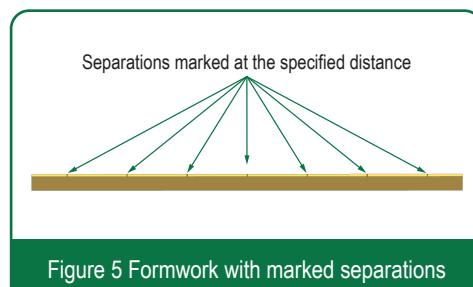

Figure 5 Formwork with marked separations
- The correct procedure considers one step before, which consists of marking the top edge of the wooden form that will be containing the poured concrete, the projected distance between the centers of each steel plate, so that those lines can be used as a reference for the fixing of the Sleeves. **Figure 5**